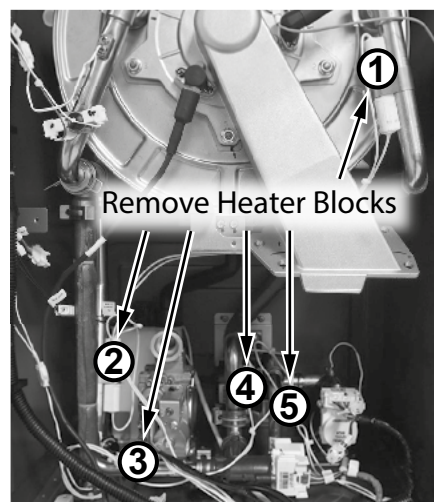

Figure 8 - Remove remaining heater blocks
15 Locate the five (5) remaining heater blocks attached to pipe connections as shown in Figure 8. Note the path of wires for ease of installation of new assembly. Remove brackets securing heater blocks to pipe connections. Place brackets aside in a safe place for reinstallation.